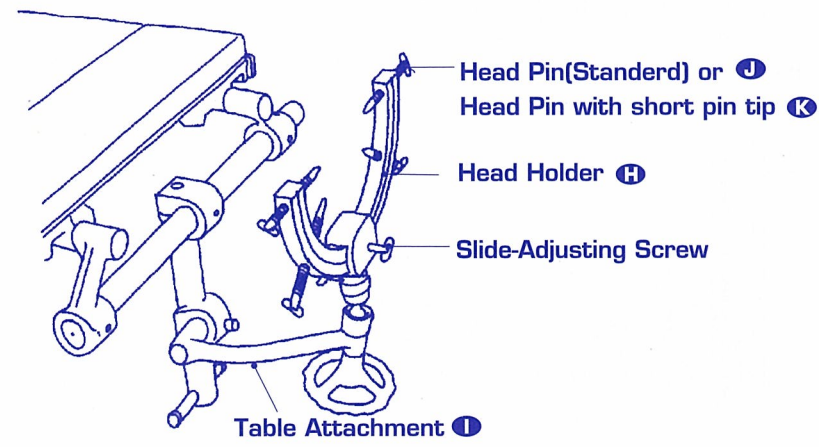

Fig.5
3. After inserting the Head Holder (H) into the end of the Table Attachment (I), the Head Holder (H) is securely fixed by turning the slide-adjusting screw and wing screw. (Position of the Head Holder may be adjusted by loosening the slide-adjusting screw.)
★ When attaching the Head Holder (H) to the Table Attachment (I), face the V-shape groove of the Head Holder (H) and the slide-adjusting screw towards the surgeon (or away from the table). (fig.5)
With the attendant supporting the Head Holder (H), loosen the angle-adjusting lever and the Head Holder handwheel to place the patient's head in position. Then tighten the lever and the handwheel securely. The head holder can now be draped. (Fig.5)